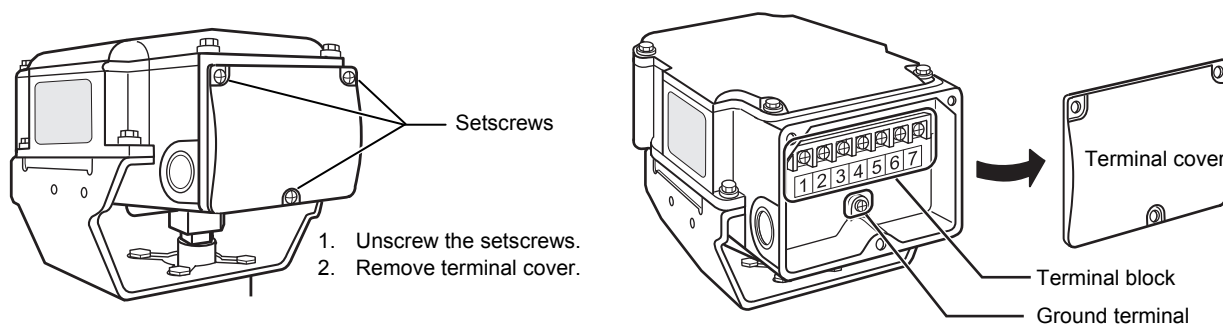

Figure 10. Terminal cover removal
- 2) Unscrew the 3 setscrews (M4 × 10) of the terminal cover and remove the terminal cover, as shown in Fig. 10.
To connect a device with over 100 V AC to the sub-DO, be sure to ground the actuator with 100 Ω or lower ground resistance. Refer to Fig. 10 for the location of each terminal.
- 1) Unscrew the setscrews and remove the terminal cover. See Fig. 10 for removing the terminal cover.